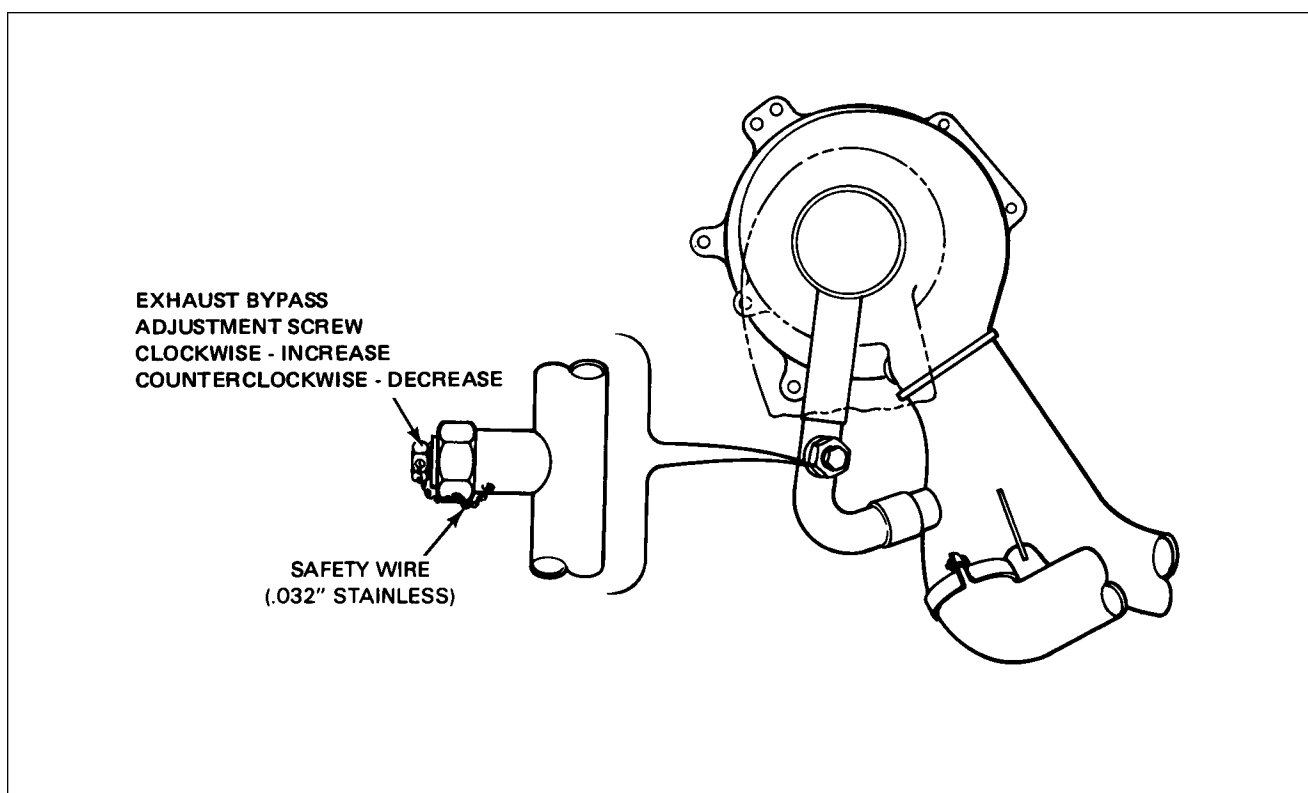

Figure 73-6. Exhaust Bypass Screw
2. Exhaust Bypass Check: Ascertain that the exhaust bypass adjusting screw has from eight to nine threads showing below the jam nut. This screw is preset at the factory and should not require any adjustment, unless it is known that critical altitude is not correct; in this case, use procedure given in Step 11. (Refer to Figure 73-6.)